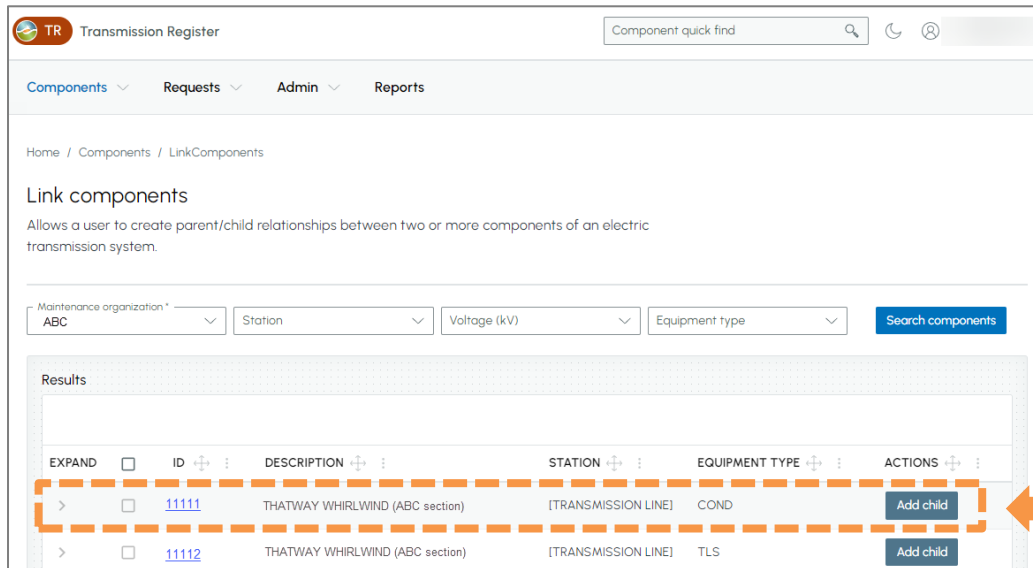

Figure 4 Add Child
- 4) In the **Results** section, identify which component to link and then click on the **Add Child** button (Figure 4).